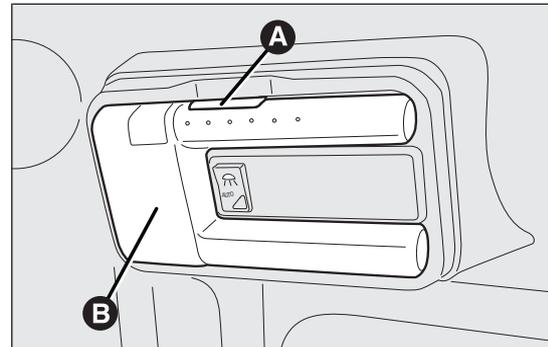

fig. 154
- press button A fig. 154 and extract the removable ceiling light B;